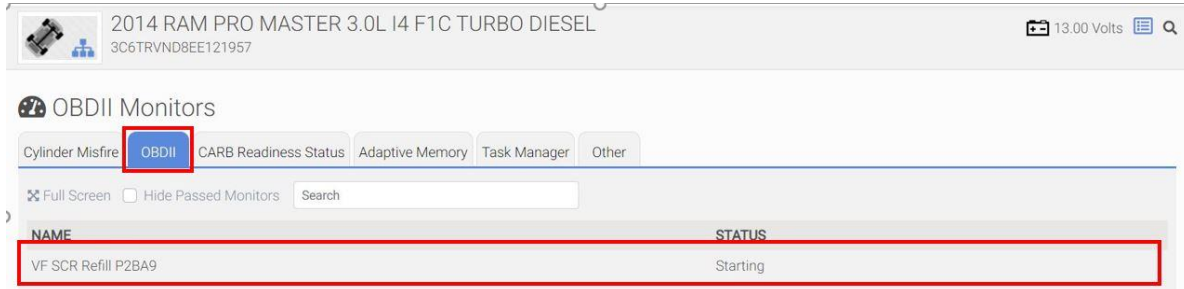

Figure 4.
12. Select OBD II and then VF SCR Refill P2BA9. Please see (Figure 4).